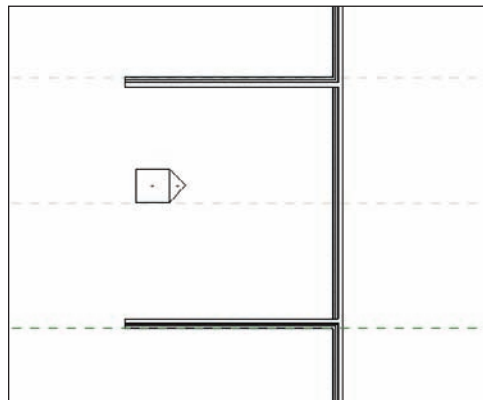

FIGURE 2.7 The two walls drawn here are 30'-0" from finish face to finish face.
9. Do the same for the other side. Your plan should now look like Figure 2.7.